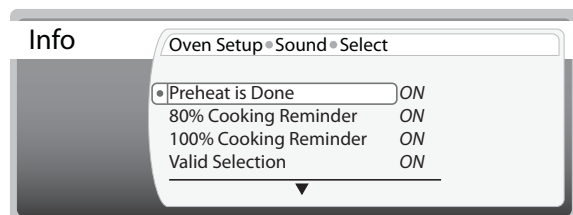

Figure 4.3: Sound Select
6. Use the inner CookWheel knob to scroll to and select the sound to be turned on or off (Figure 4.3). By default, all oven sounds are turned on.